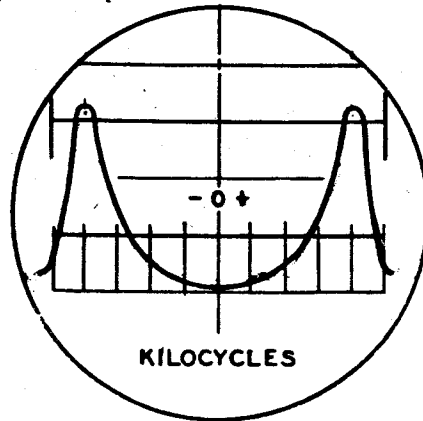
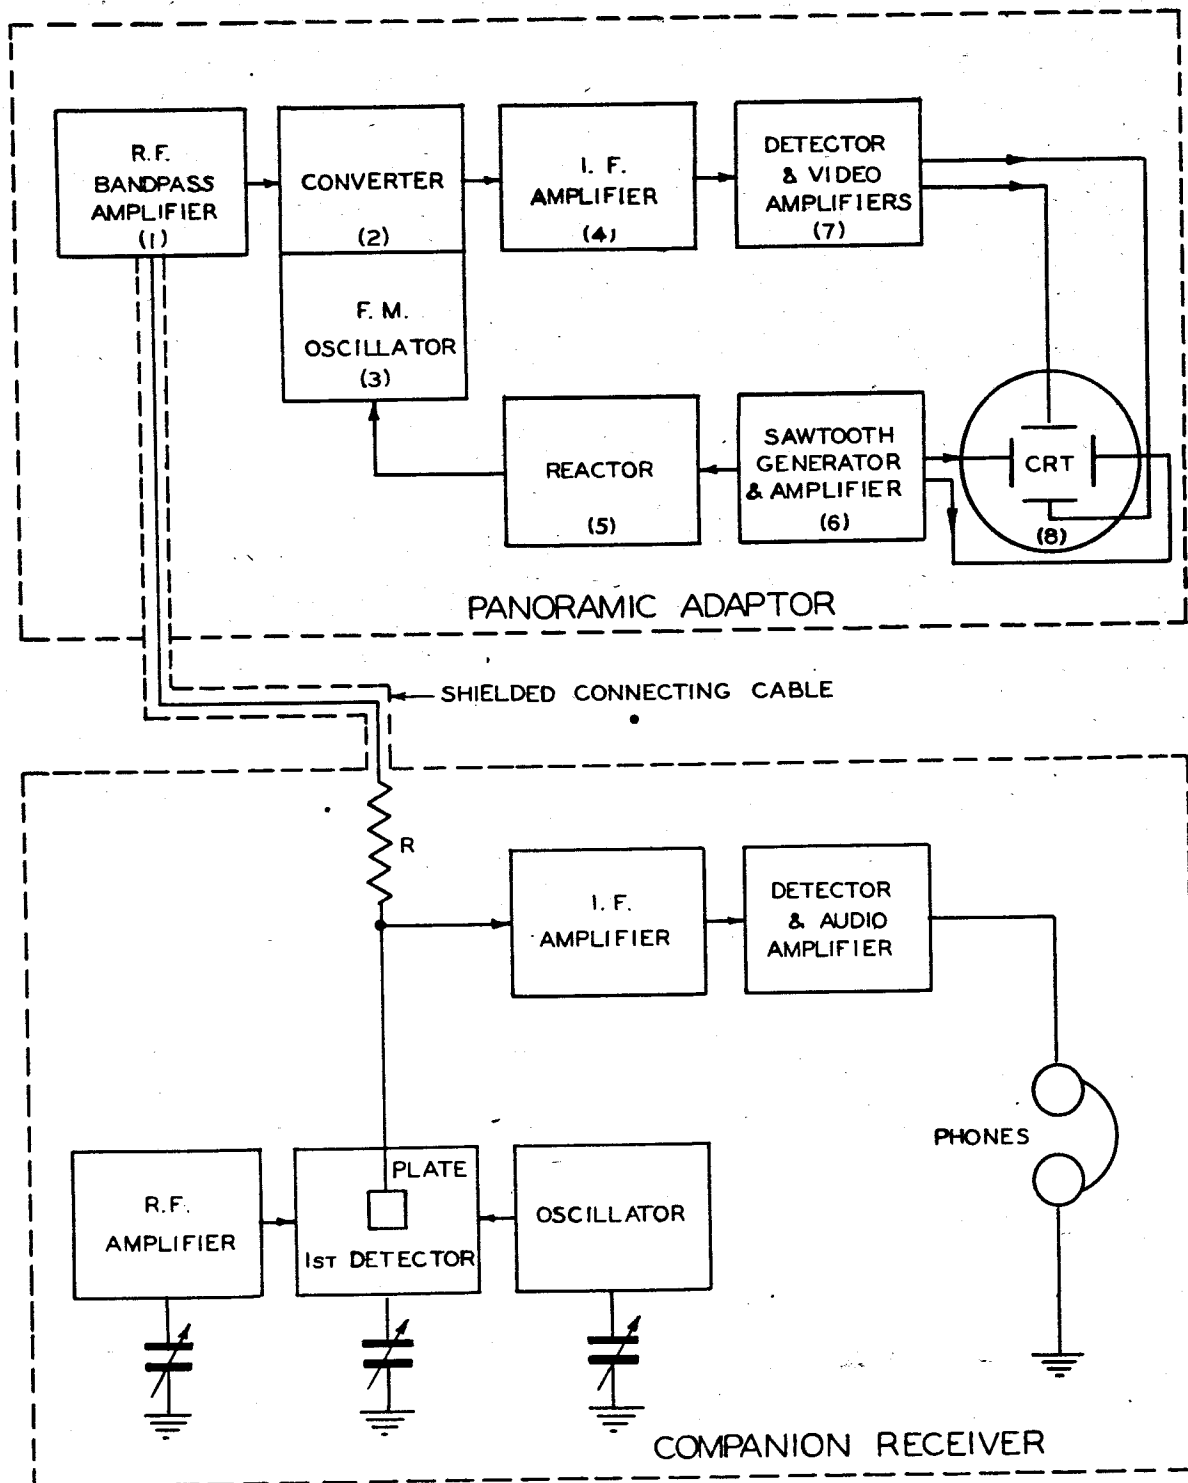

FIG. 7
FIG. 9 - BLOCK DIAGRAM
The Panoramic Adaptor has an input-amplifying stage with a bandpass characteristic which is inverse to that of the receiver (See Fig. 7, and 8). That is, it amplifies where the receiver attenuates and
4.03 Bandpass Amplifying Stage. Refer to Block Diagram Fig. 9, for a description of the various steps by which panoramic reception is obtained. Block marked (1) is an R.F. bandpass amplifier (Fig. 7,) which is the input stage of the Panoramic Adaptor, and is connected to the plate of the first detector of the receiver, through the isolating or blocking resistor "R". This blocking resistor prevents detuning of the receiver and permits the latter to operate normally.